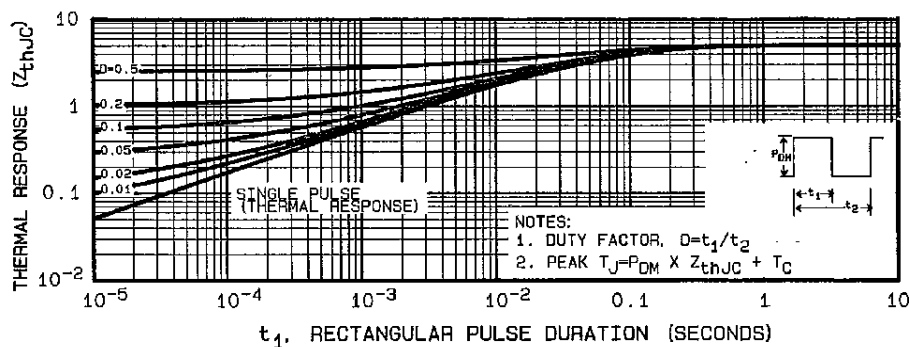

Fig. 14 - Maximum Effective Transient Thermal Impedance, Junction-to-Case vs. Pulse Duration
- a. Repetitive rating; pulse width limited by maximum junction temperature (see fig. 14).